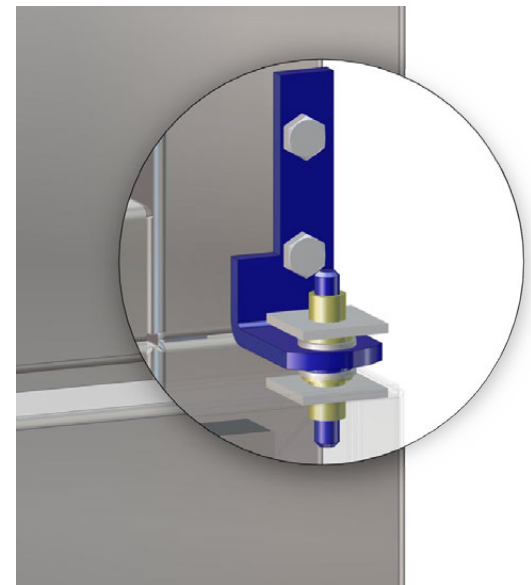

Fig. 63: Intermediate Door Hinge in Place
3. After the door is removed, unscrew the Door Handle and Cam Lock Plate from their present position and move them to the bottom of the door. Be sure to “mirror” the Cam Lock Plate so that its top flange will be flush against the warming cabinet when the door is reinstalled in its new position (Fig. 63).